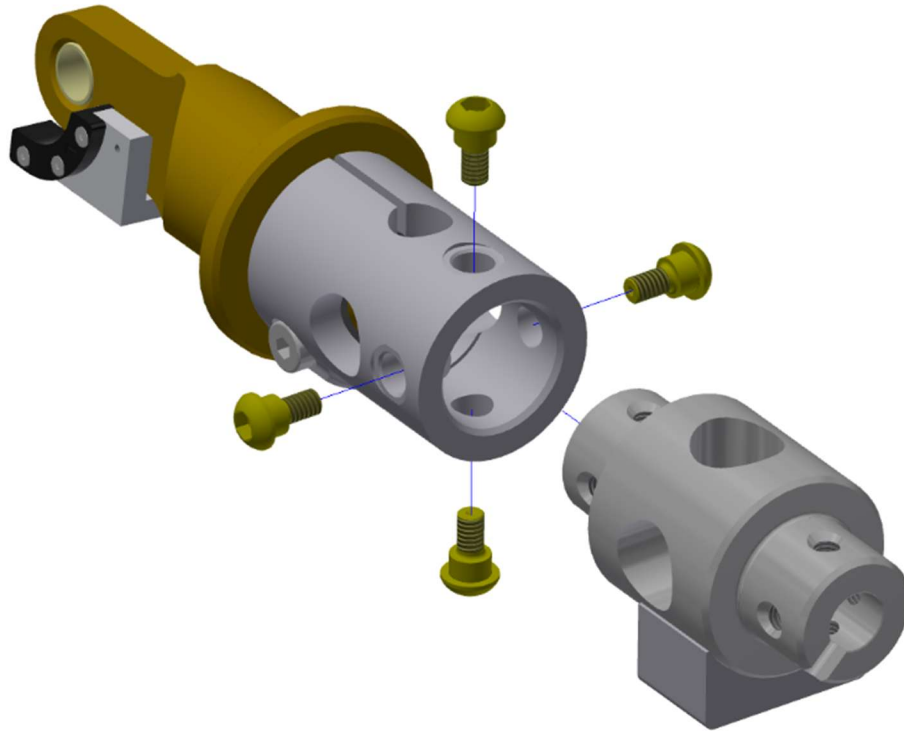

Figure 11-12. Remove the four Modified BHSS M6 Thread (W50-61042) from the Upper Arm Load Cell Adaptor (484-6112)
- 11.2.9 Remove the four Modified BHSS M6 Thread (W50-61042) from the Upper Arm Load Cell Adaptor (484-6112) connecting to the Upper Arm Load Cell Structural Replacement (484-6106) (Figure 11-12).